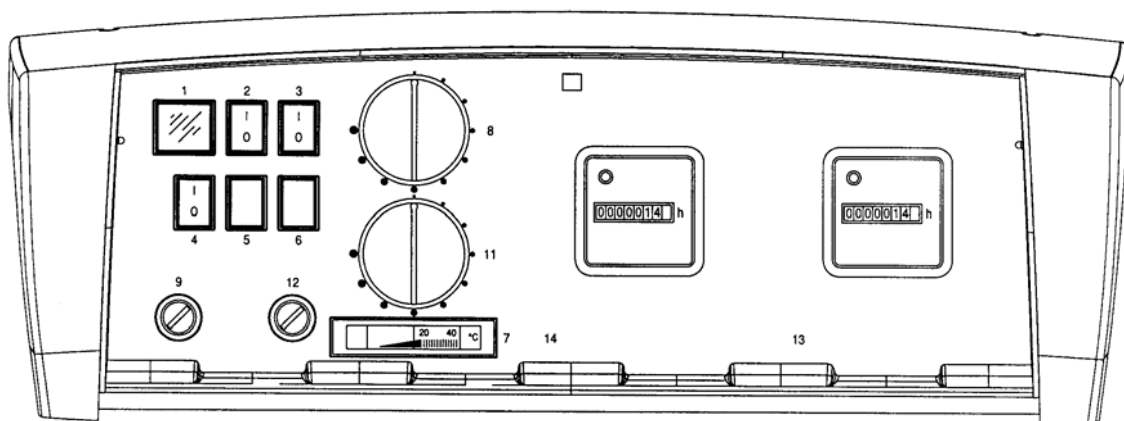

Fig. 4
3.5.1 TABLEAU DE COMMANDE REX DUAL/REX DUAL F (Fig. 4)